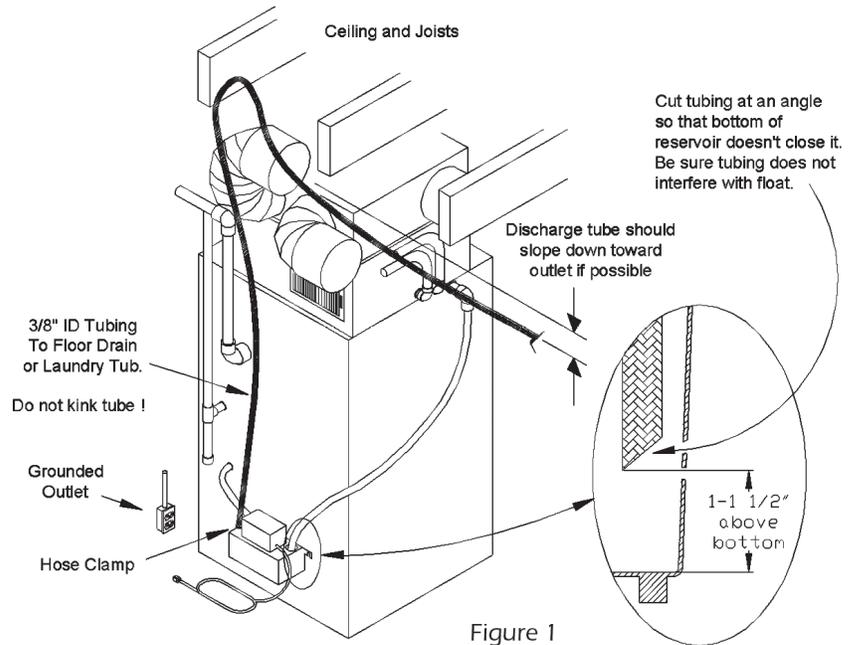

Figure 1
See Figure 1 – exploded detail.
Connect 3/8" NPT piping to the discharge port. Extend this piping or tubing straight up as high as necessary. (Do not extend this tubing past the head/GPH of the pump installed). Do not kink the tubing, as this will block the flow. From this high point, slope the discharge tubing downward to a point above the drain, then turn down and extend to a point below or level with the bottom of the condensate pump. If it is not possible to slope the discharge tubing downwards, make an inverted "U" trap directly above the pump at the highest point. (Figure 1) A check valve is required and should be of a soft seat swing check design. A spring loaded ball check is permissible if the lift is one half of the pump shut off level and the spring pressure is equal to, or less than one (1) psi.